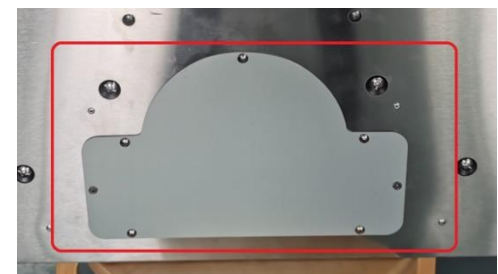

Figure 3
10. For Rear 3-1/4" x 10" Rectangular vent installation only: Remove attached 6" Round vent and discard. Keep seven screws to install the rectangular vent. Align and secure Top Vent Cover with seven screws to block the top exhaust (Figure 3). Remove the duct knockout from back of the hood. Keep the screws and discard the duct knockout. Then align and secure 3-1/4" x 10" Rectangular with two screws (Figure 4).